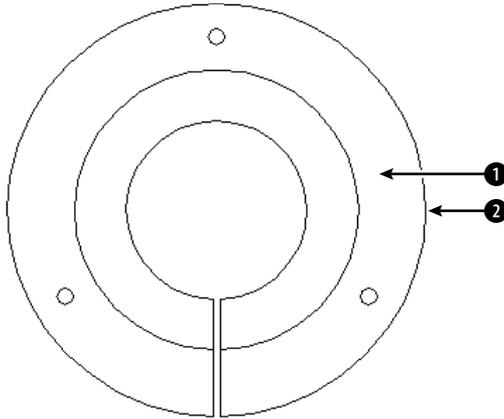

Figure 16-15: A bushing.
2. Save the file as `ab16-05.dwg` in your AutoCAD Bible folder. This is a bushing, shown in Figure 16-15.
5. At the Select internal point: prompt, choose ❶ in Figure 16-15.